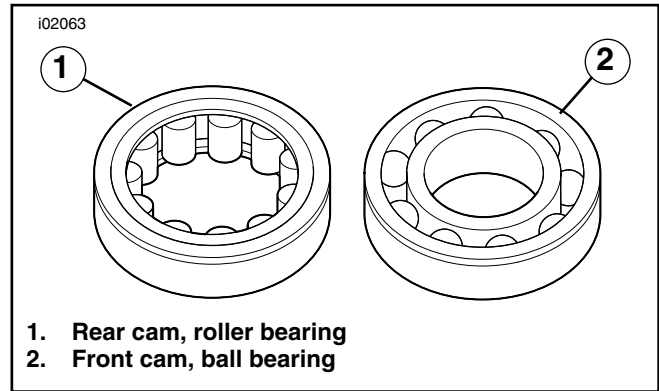

Figure 3. Cam Bearings
See Figure 3. Be aware that the front and rear cam bearings are no longer interchangeable. The rear bearing (1) is now the roller type, while the front bearing (2) remains the ball type.